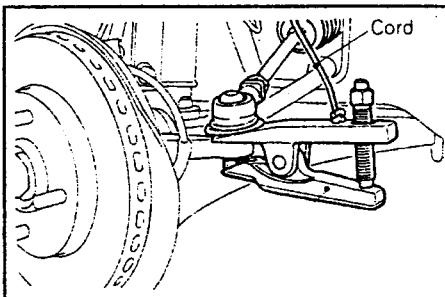

Fig. 7.5. — Separating a track rod ball joint. Note the cord which is used as a safety measure.
- Remove the nut securing the track rod ball joint to the steering knuckle lever (8) and separate the track rod ball joint with a suitable puller as shown in Fig. 7.5. *To prevent accidents, use a piece of cord and attach the puller to the front suspension.* This will prevent it from "flying off" when the ball joint stud "pops" out.
- Disconnect the stabiliser bar from the lower suspension arm (9).
- Disconnect the lower suspension arm ball joint (10) from the steering knuckle (section "Front Suspension").
- Remove the undercover (11) on the R.H. side.